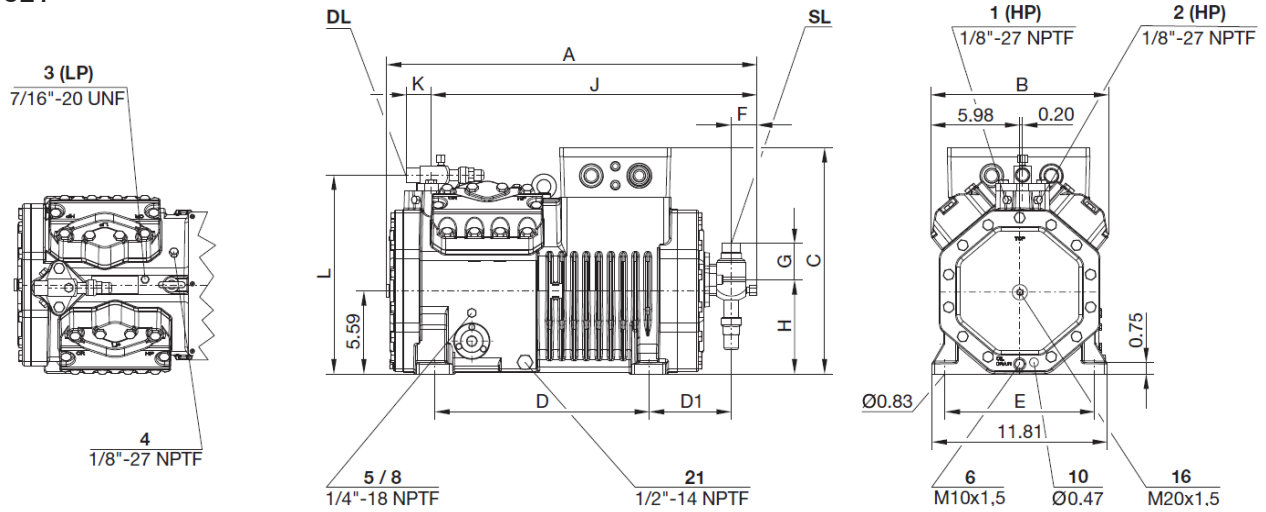

Figure 3.2
2. When using the Johnson electronic control P545-NCB25 the electronic sensor is connected as shown in Figure 3.2.